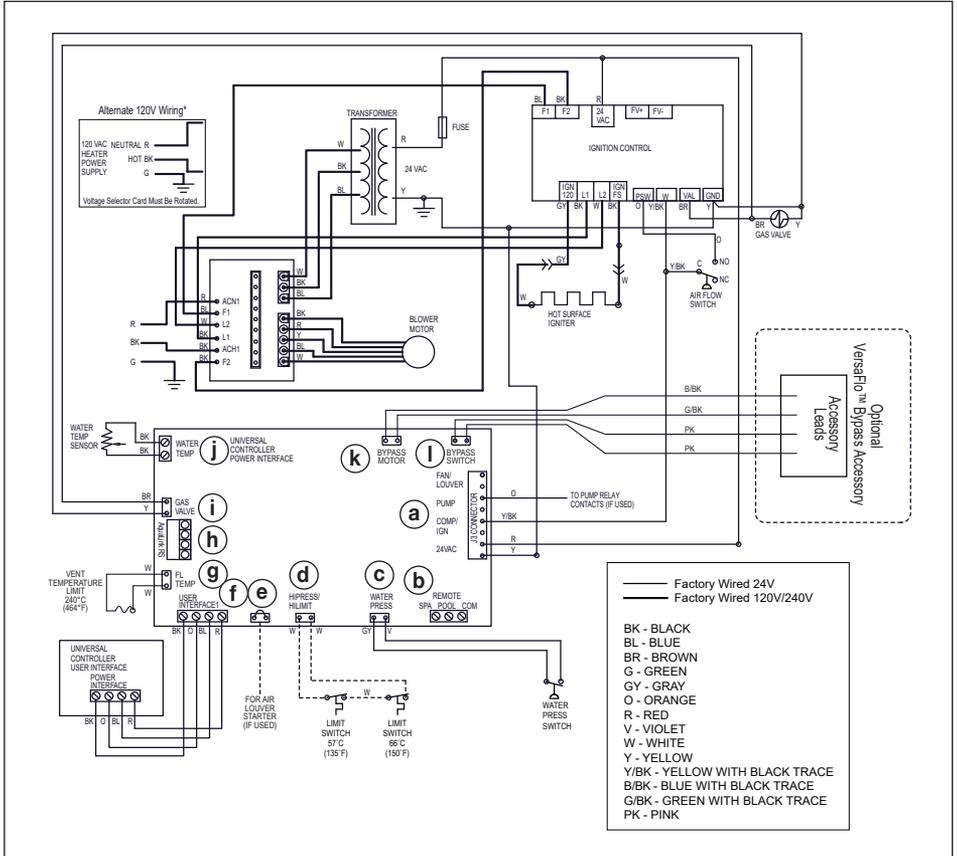

Figure 15. JXi Connections / Schematic Wiring Diagram
NOTE: If the heater is converted to accept 120V, the “Hot” wire of the 120V power supply has to be connected to the black wire (ACH1) on the power distribution board and the “Neutral” wire of the 120V power supply has to be connected to the red wire (ACN1) of the power distribution board. Please see *Figure 15* for details.
Refer to *Figure 15* for a complete diagram of wiring connections and terminals.
- Connect the wiring from the pool/spa control system to the heater remote control terminal. See *Figure 15* item “b”.
- Connect the two wires to Pool and Common (not Spa) on the J6 terminal bar. See *Figure 15* item "b".